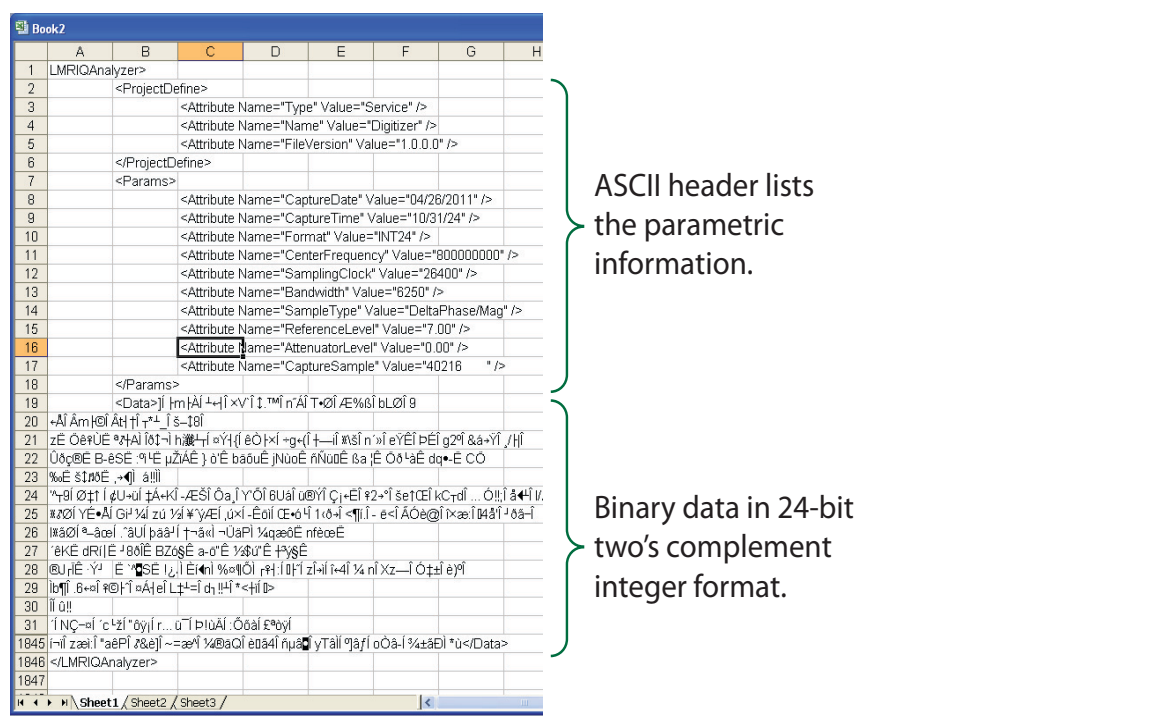

Figure 5-10. IQ Capture (6.25 kHz Bandwidth)
The IQ data is sampled at 2,400 x 11 (6.25 kHz BW) or 4,800 x 11 (12.5 kHz BW) symbols per second. The saved file has an ASCII header and binary data (Figure 5-10). The data is written in 24-bit two's complement integers format. Interleaved Delta Phase (I) data then Magnitude (Q) data is captured. The file is intended for post-processing in MATLAB or similar software.